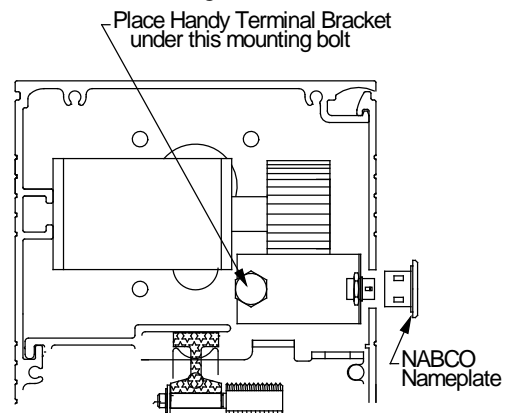

Figure 5
9. Reinstall cover. Install the Handy terminal bracket under the mounting bolt. (See Figure 5) It should